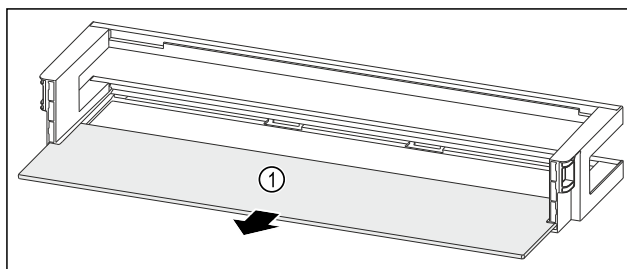

Fig. 147 Door rack with shelf
- ▶ Remove the shelf Fig. 147 (1).